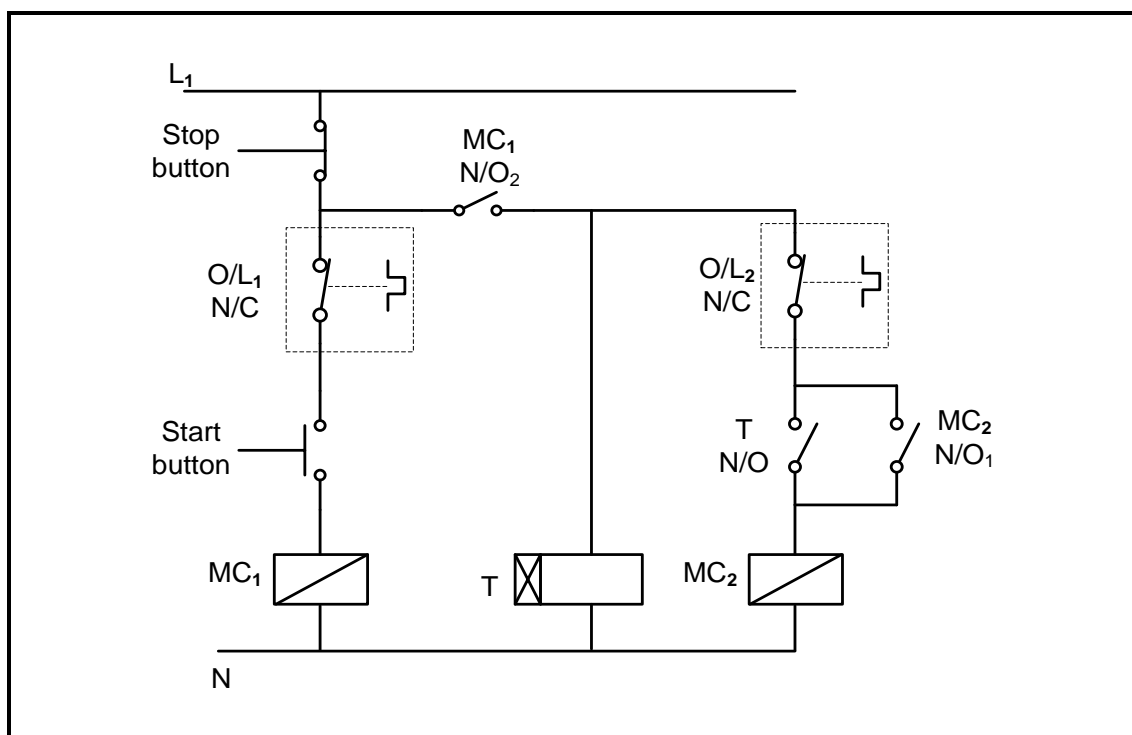

FIGURE 6.9: AUTOMATIC SEQUENCE STARTER CONTROL CIRCUIT
- 6.9 The circuit in FIGURE 6.9 below is used to control TWO three-phase motors. Answer the questions that follow.